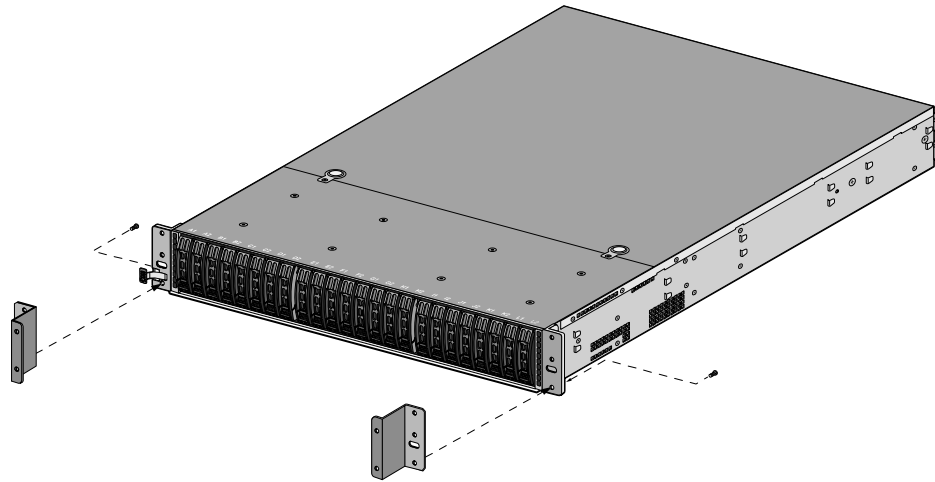
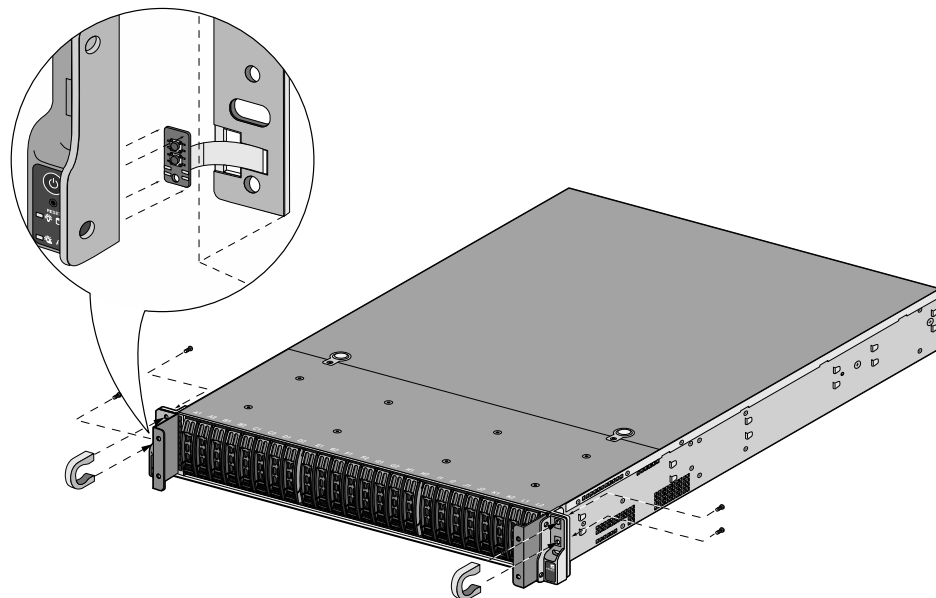

Figure 39 – M-500: Secure the Front Brackets
Figure 40 – M-500: Attach Pull Handles and Front Modules
Attach the left and right front cover brackets to the appliance using the six (6) screws that you removed in Step 1. First attach the brackets using the bottom screws (one on each side) as shown in Figure 39, ensuring that you feed the ribbon cable and LED circuit board through the left bracket. Replace the front modules and secure them using the middle and top screws on each side as shown in Figure 40.